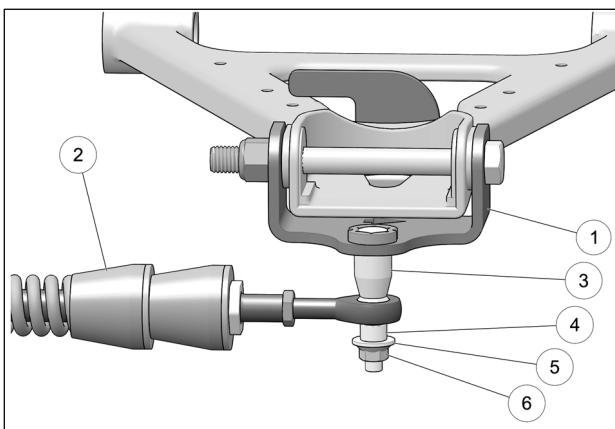

Fig. 12
11. Attach stabilizing rod (2) to anchor bracket (1), using long spacer bushing (3), short spacer bushing (4), flat washer (5) and nut (6). Torque to 70 N·m [52 lb·ft]. See Fig. 12